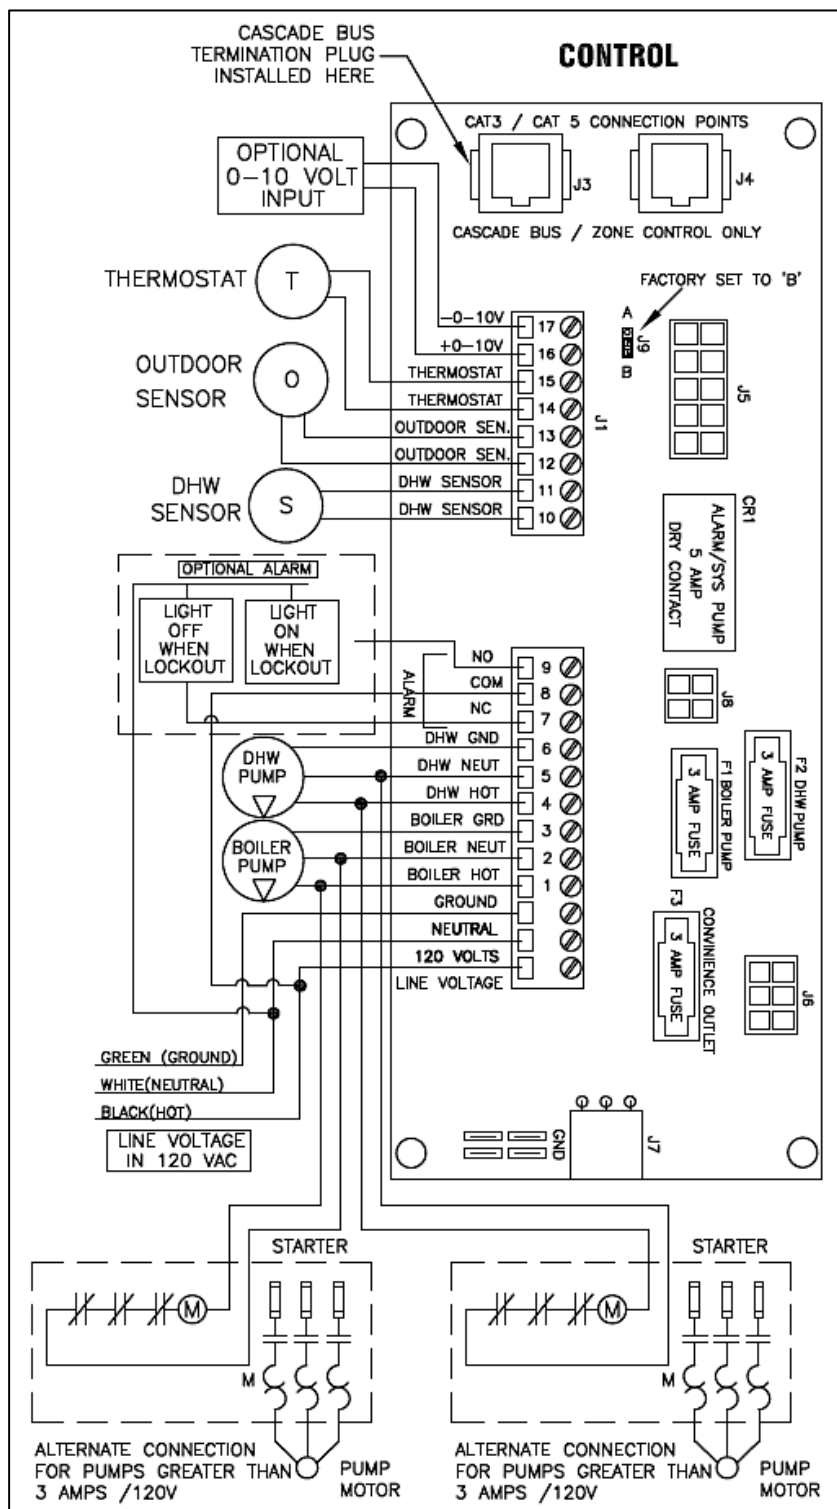

Figure 28 – Boiler Control Wiring
NOTE: A termination plug is included in the CAT 3 / CAT 5 Bus Connection Point, labeled J3 in Figure 28. DO NOT REMOVE THIS PLUG! Doing so will affect boiler operation and void warranty.
1. Connect the incoming power wiring to the line voltage terminal strip in the electrical junction box at terminals LINE 120V, Neutral, and Ground (shown in Figure 28).
The Mod Con control includes a dry contact alarm output. This is an SPDT circuit, rated at 5 amps at 120 volts. This contact can be used to activate an alarm light or bell, or notify a building management system if the boiler goes into a lockout condition. The circuit between the ALARM COM and NC terminals is closed during normal operation and the circuit between ALARM COM and NO is open during normal operation. The connections depicted in Figure 28 show two 120 volt lights connected to the alarm terminals. One light will be on when the boiler is in normal mode and the other light will turn on when the boiler is in lockout mode.
2. Connect all low voltage field devices in the low voltage terminal strip located in the electrical junction box (shown in Figure 28).
1. Connect the room thermostat to the terminals marked THERMOSTAT in the electrical junction box (shown in Figure 28). Alternately, any dry contact closure across these terminals will cause the boiler to run. Caution should be taken to ensure neither of the terminals becomes connected to ground.
1. If using an outdoor sensor, connect wires for sensor to the terminals marked OUTDOOR SEN (shown in Figure 28) in the electrical junction box. Caution should be used to ensure neither of these terminals becomes connected to ground.
2. Connect the indirect tank sensor (7250P-325) to the terminals marked DHW SENSOR (shown in Figure 28) in the electrical junction box.
2. Connect a building management system or other auxiliary control signal to the terminals marked 0-10 VOLT + and 0-10 VOLT – in the electrical junction box (shown in Figure 28). Caution should be used to ensure that the 0-10 VOLT + connection does not become connected to ground.